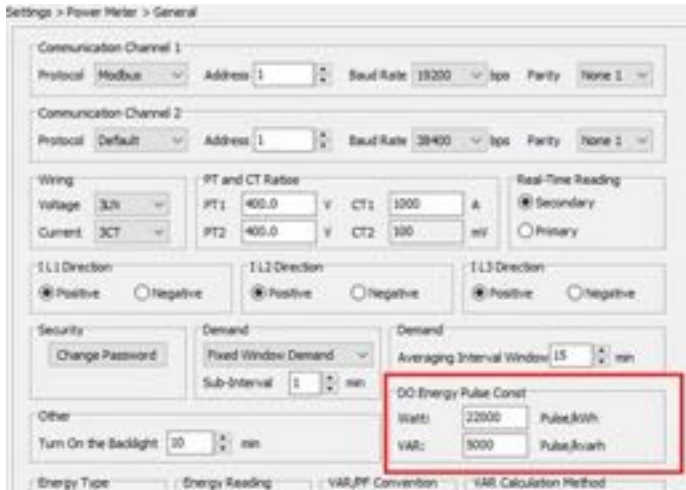

Figure 5-35 DO Energy Pulse Constant Configuration from Acuvim software
- Once the pulse constant is determined, it will need to be configured in the general settings. In Figure 5-35, the pulse constant that is entered into the meter is 100.